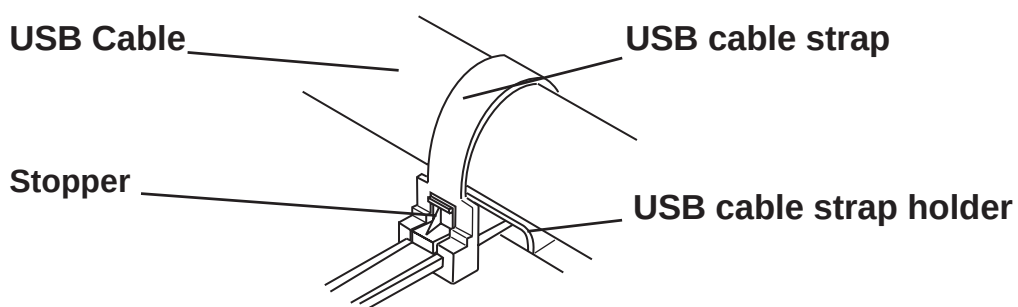

Figure 1
- 2) Insert the cable strap into the cable strap holder as shown in figure 1, and tighten the strap until the cable is secured in place.